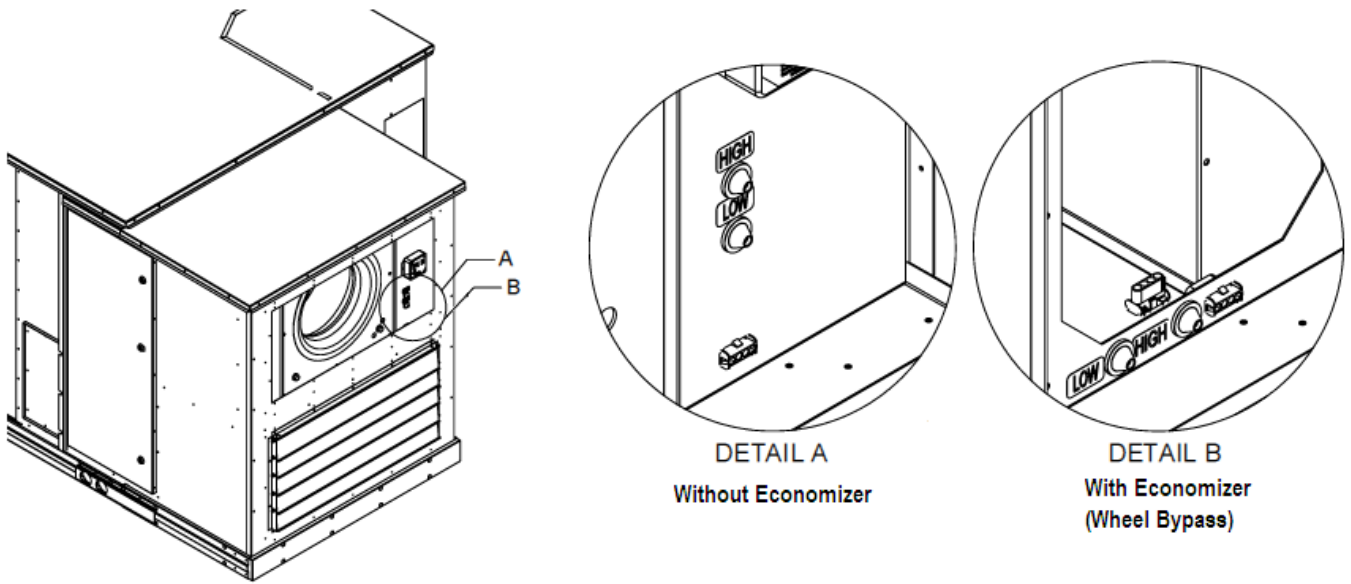
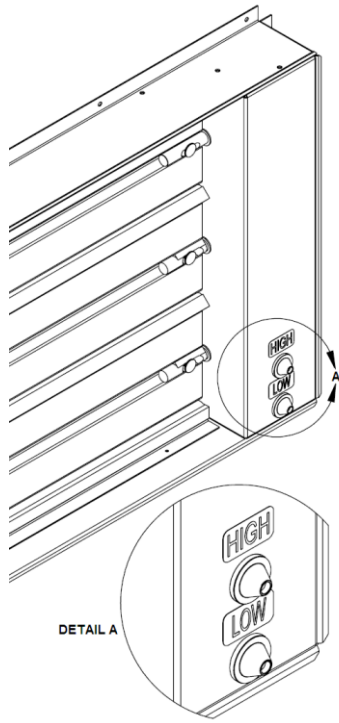

Figure 1e – Outside Air Tube Connections
Figure 1g – 2 Position Damper Tube Connections
6. On 48/50PM 16-28 size units, connect the plastic airflow sensor tubing from the outside air opening to the corresponding labeled brass connection fittings on the hoods. The tubing should be coiled and tied inside the air opening of the unit and are marked for the high/low sensor port connections. See figures 1e and 1f. If a field installed 2-position damper is being used, the tubing must be routed thru the damper assembly and connected to the hood. See figure 1g.